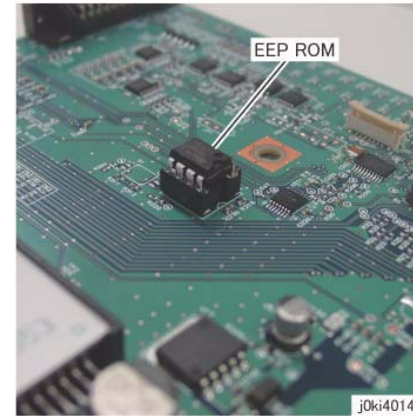

Figure 6 Remove and Replace the EEP ROM from the old PWB
2. When the PWB is replaced, remove the EEP ROM from the old PWB and install it onto the new one. (Figure 6)